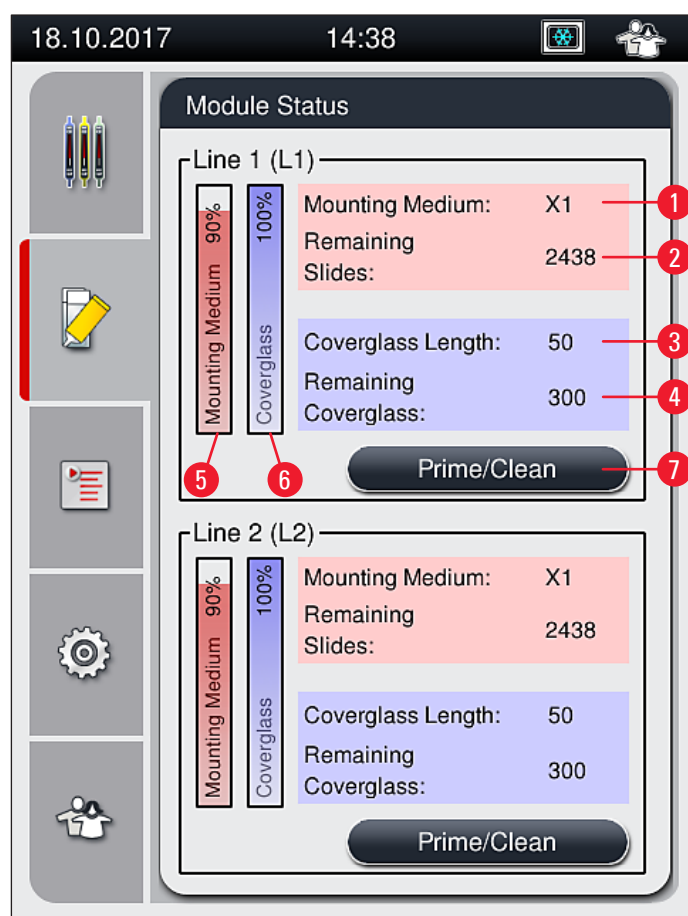

Fig. 50
- The menu **Module Status** (→ Fig. 50) provides the user in HistoCore SPECTRA CV an overview of the used consumables (mounting media (→ Fig. 50-1) and coverglass (→ Fig. 50-3)) and their current fill levels (→ Fig. 50-5) (→ Fig. 50-6) and remaining amounts (→ Fig. 50-2) (→ Fig. 50-4) for both coverslip lines.